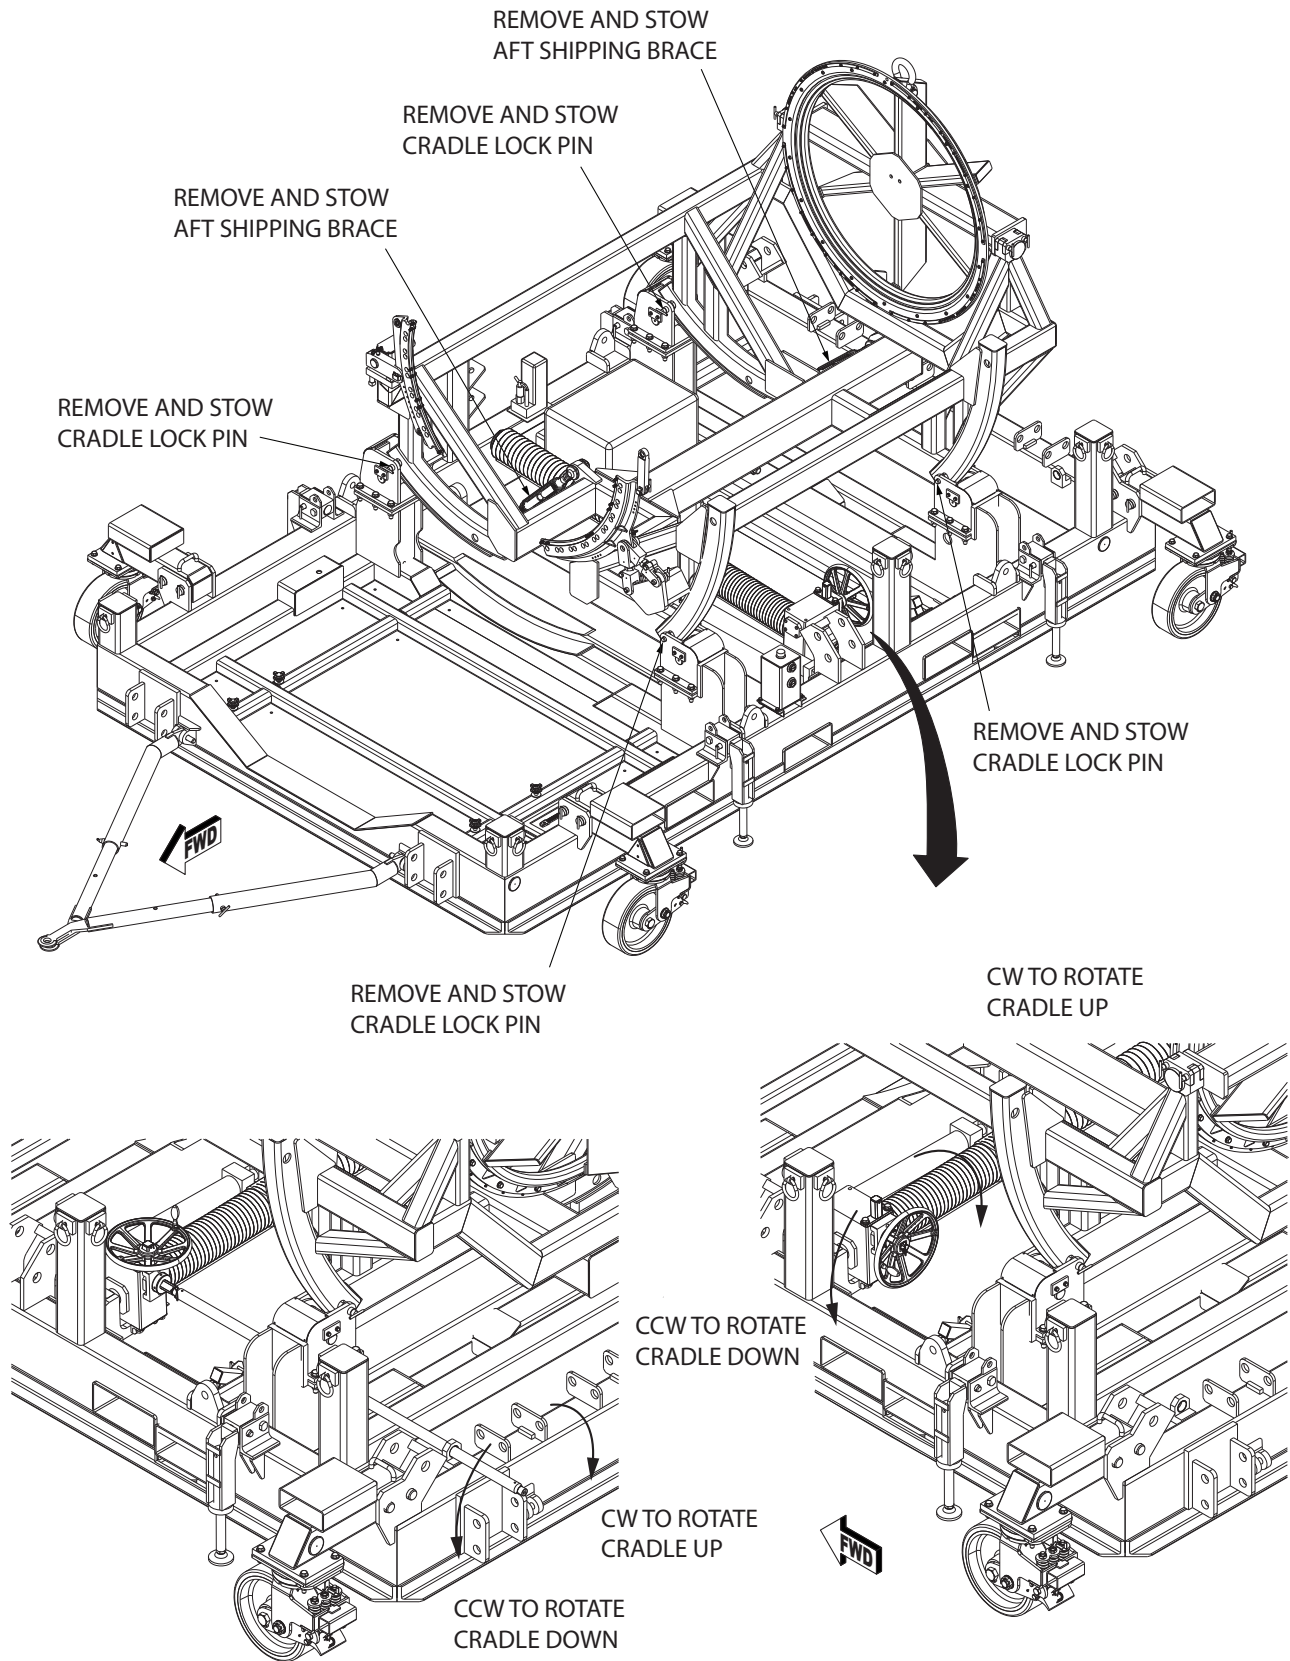

Figure 5.1-1 Rotation of Empty Cradle
- 1) Remove four (4) cradle locking pins. (Figure 5.1-1).
- 2) Loosen and disconnect the forward and aft shipping braces. (Figure 5.1-1).
- 3) Turn the hand wheel (or the air ratchet) in the direction indicated by stencils to rotate cradle in direction required (AFT looking FWD): CCW to rotate and lower the cradle CCW and CW to rotate and raise the cradle CW. (Figure 5.1-1).